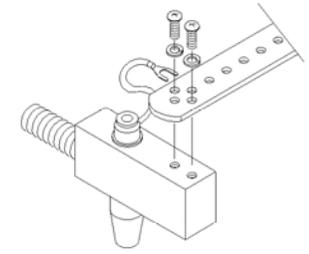

Fig. 3 Mounting for a single nozzle
- Use a bracket "X10S" provided with M5 screws for mounting the nozzle. Then, the grounding lead should be tightened with screws as shown in Fig. 3. The nozzle has two mounting holes with Spinsert inserts having M5 thread to a depth of 9 mm on the opposite side of the air outlet. The mounting bracket must be grounded. If grounding is not properly done, there is a risk of electrical shock/fire hazard.